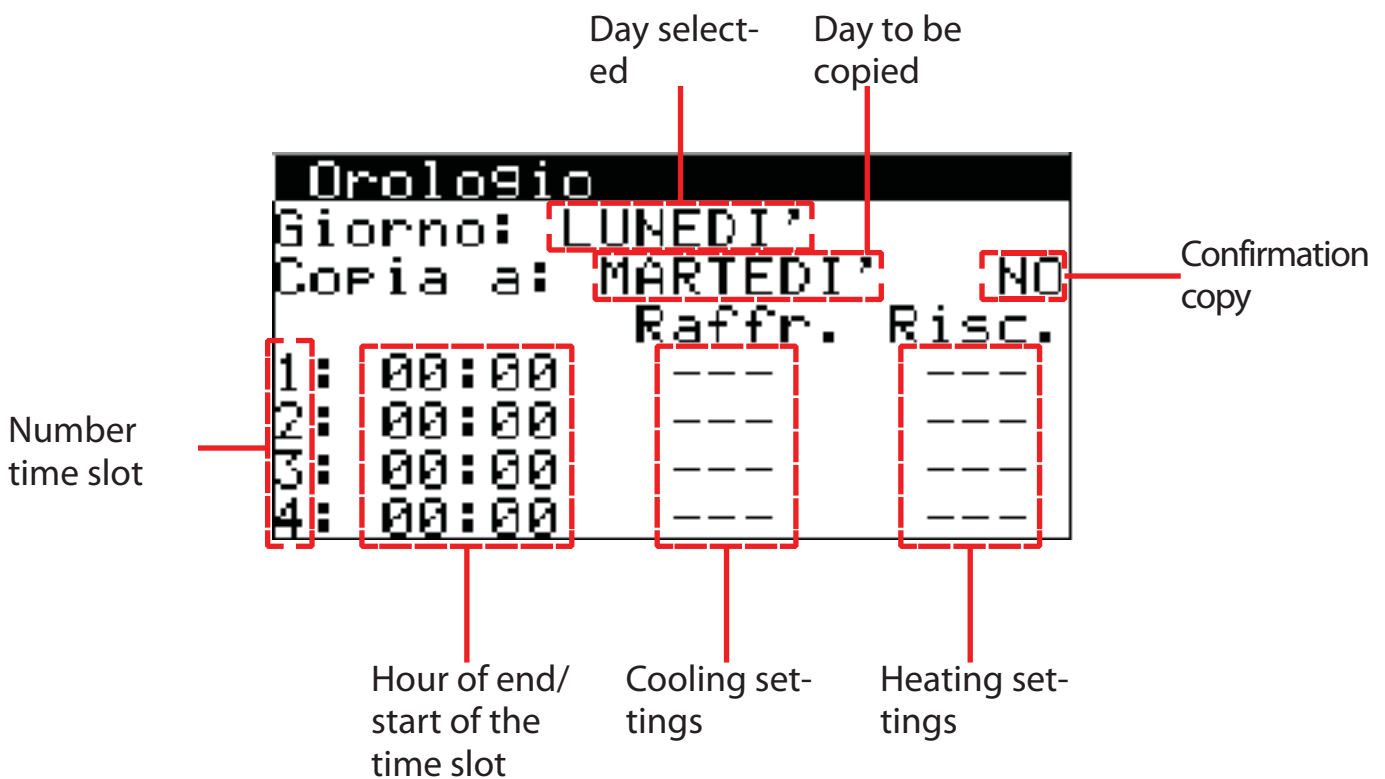

Fig. 10
3. screen of setting of the time slots (Fig. 10)\*